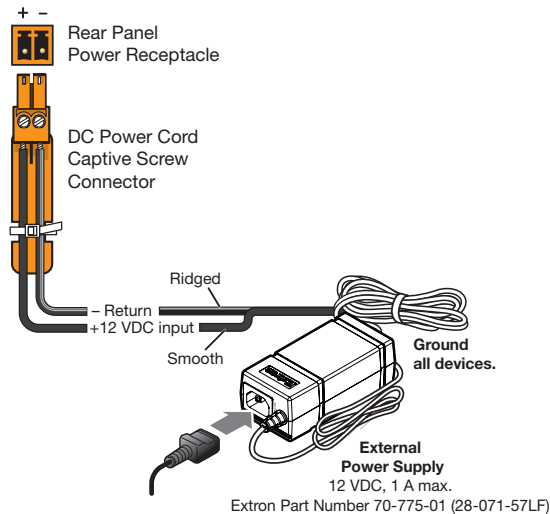
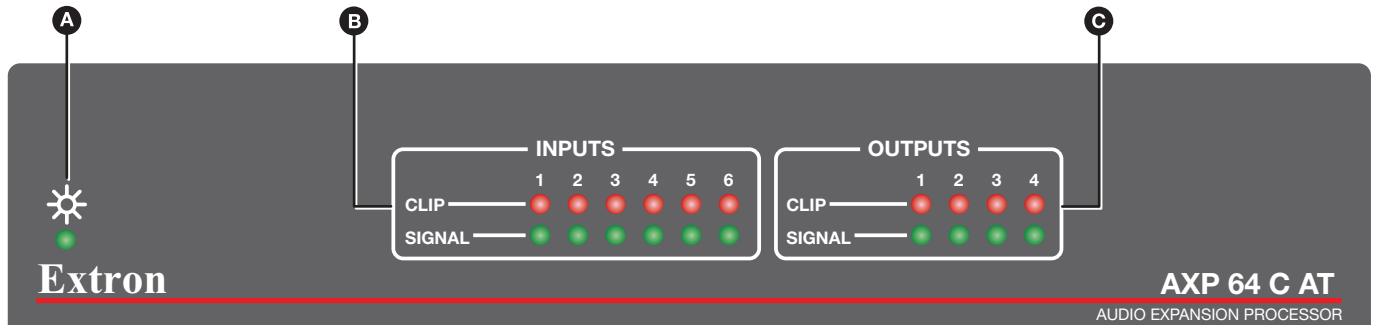

Figure 2. External Power Supply Connection
Figure 3. AXP 64 C AT Front Panel
- A 12 VDC power input** – Connect the provided 12 VDC power supply to the rear panel captive screw connector (see figure 2 on page 2) and plug in the power cord. The front panel power LED blinks while the unit is booting, then lights steadily when the AXP is powered and operational (see figure 3, **A**, on page 3). Verify that the power LED lights.
- B Digital I/O connectors** – Four 4-pole, 3.5 mm captive screw connectors associated with the mic/line inputs provide digital input and output ports to connect microphones with logic circuits. Each has an input (IN), a ground (G), and two output (O1 and O2) ports. The input port can enable mic mute from a remote source. The two output ports can provide tally back to the mic LEDs to indicate mic status. To wire these connectors, see the illustration at right.
Wire the 12 VDC power supply as shown in figure 2.